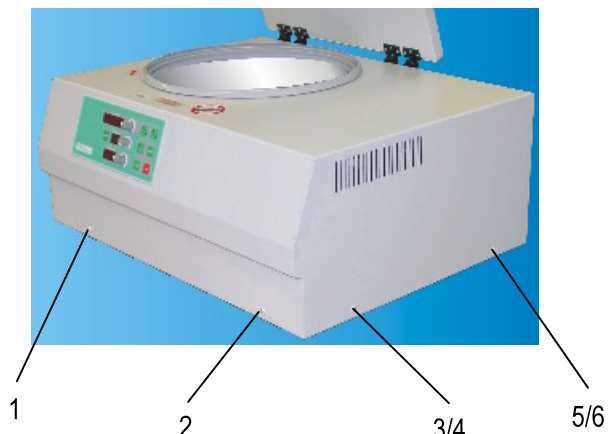

figure 22
- Remove screws 1 to 6 at the housing (figure 22)